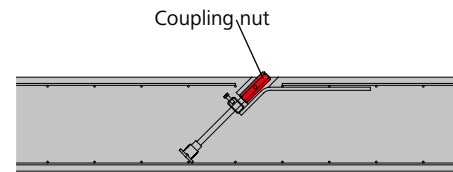

Fig. 30.2
Step 2: The coupling nut can now be screwed fully onto the tie rod (Fig. 30.2)